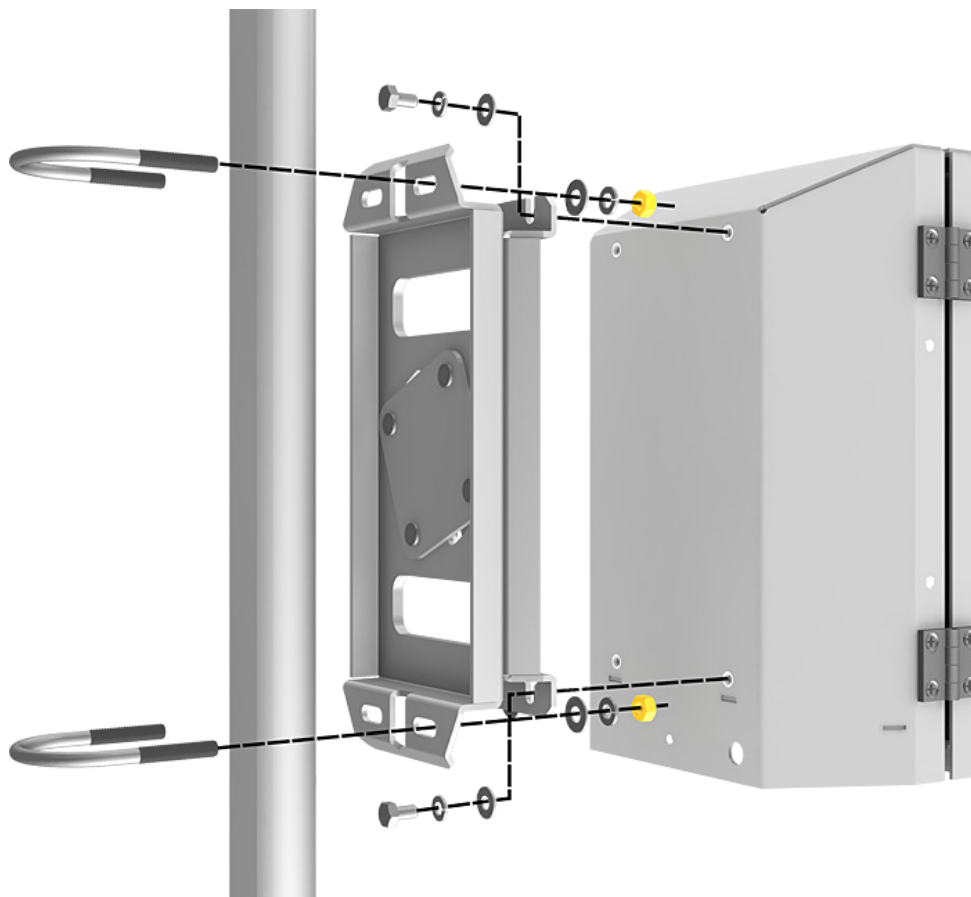

FIGURE 6-6. Exploded view of mounting the EC100 enclosure
- c. Attach the EC100 enclosure to the bracket by loosening the bolts on the back of the enclosure, hanging the enclosure on the mounting bracket (it should slide into place and be able to securely hang from the bracket), and tightening the bolts (see FIGURE 6-6).